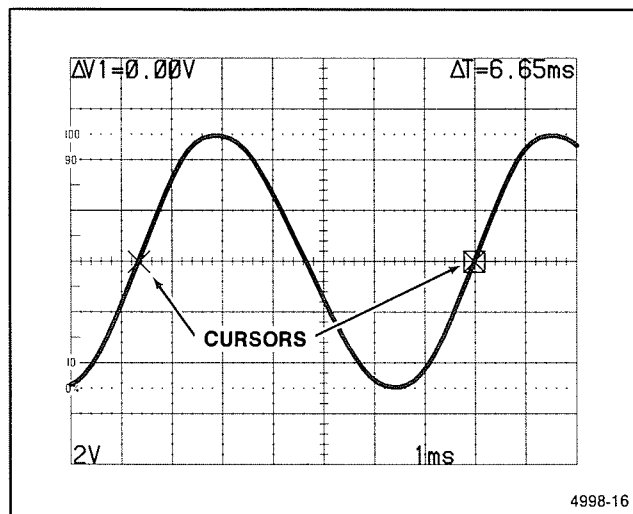

Figure 6-3. Time duration, cursor method.
4. Set the A SEC/DIV switch to display one complete period of the waveform to be measured (see Figure 6-3).